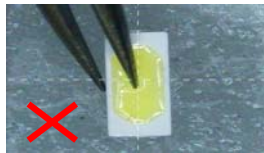

Fig. 1
(6) ESD (electrostatic discharge) protection (base on machine mode)
(7) Handling of Silica gel LEDs
- In process of using, mechanical stress should be avoided on the surface. Otherwise, sharp objects should not be used to damage the sealing material.(Fig. 1)